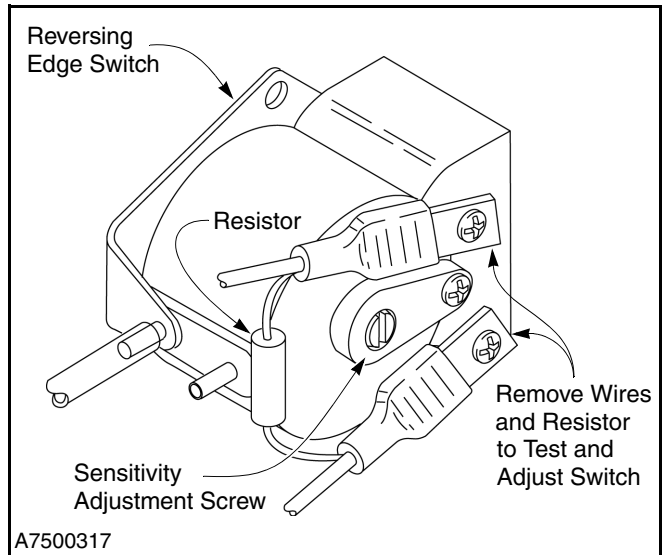

Figure 26
1. The reversing edge switch is a normally-open contact. The PVC hose is on the lower air input post. To adjust the switch, first remove the wires and resistor from the contact terminals and attach an ohmmeter across the two terminals. (See Figure 26.)
2. Turn the adjustment screw, located on the face of the switch, clockwise or counterclockwise until continuity is achieved. Then turn the screw $\frac{3}{4}$ turn counterclockwise. The ohmmeter should no longer show continuity. Turning the screw counterclockwise decreases sensitivity. Turning the screw clockwise increases sensitivity. (See Figure 26.)